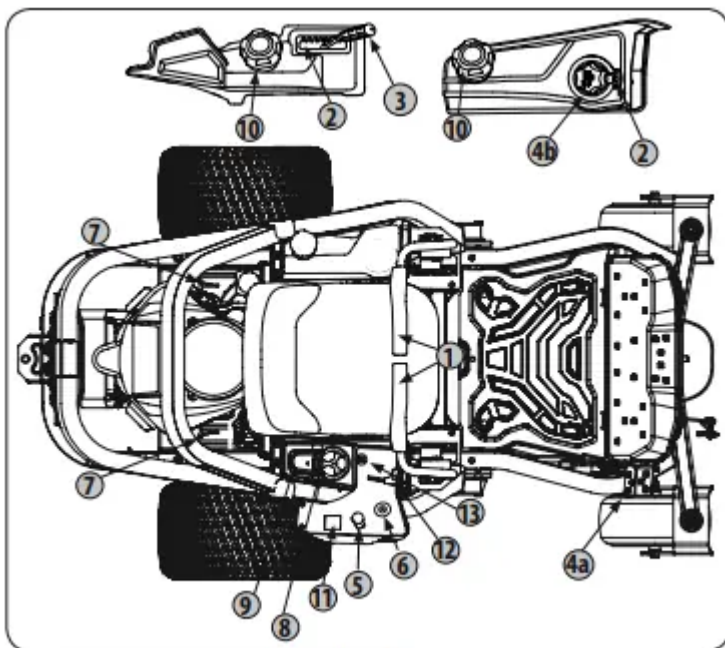

Figure 15
3. Replace the knobs into one of the four hole settings and tighten securely. See Figure 15.
If equipped with a deck lift handle: Each height index notch corresponds to approximately a 1/2" (12.7mm) change in deck height. See 3 in Figure 15.
If equipped with a deck lift pedal and knob: Each rotation represents a 1/8" (6.35 mm) change in deck height. Positions range from 1" (2.5 cm) to 4-1/2" (11.4 cm) at the highest point. See 4a and 4b in Figure 15.